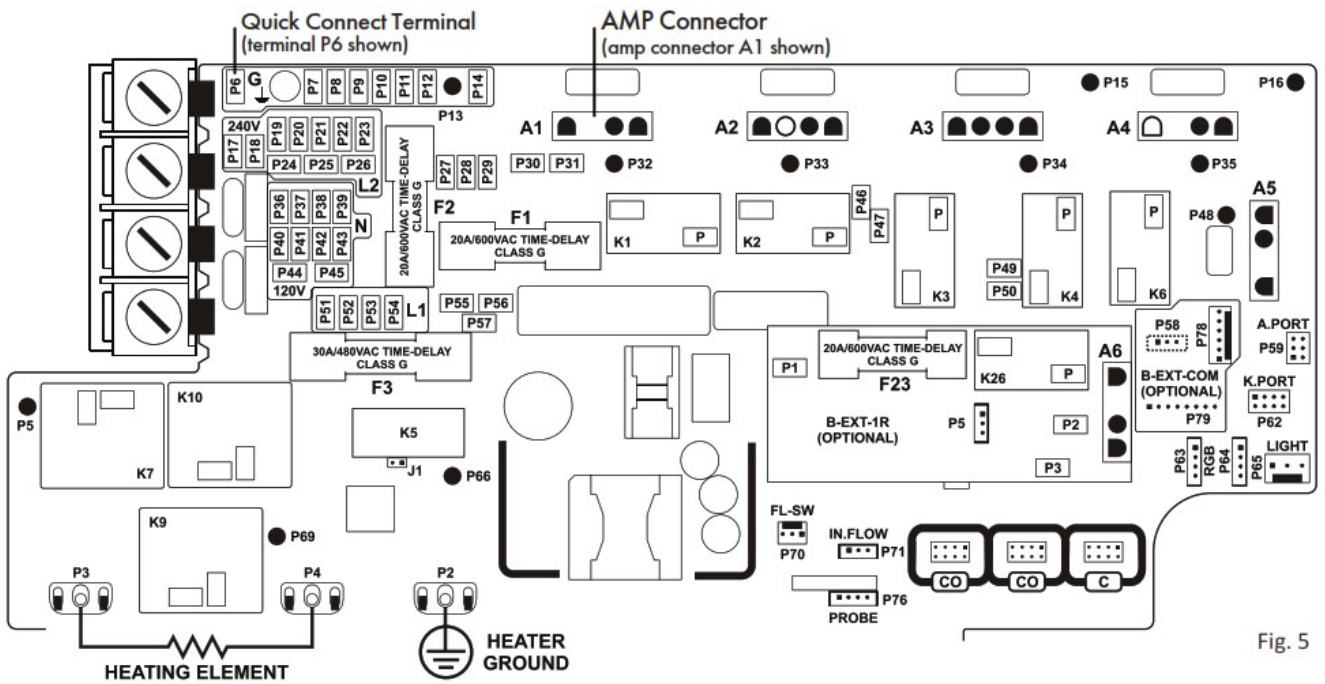

Fig. 5
5. The next step is unplugging all equipment from the controller. Each component is connected to the controller board with either three female quick connect terminals or a single amp connector (Fig. 5).